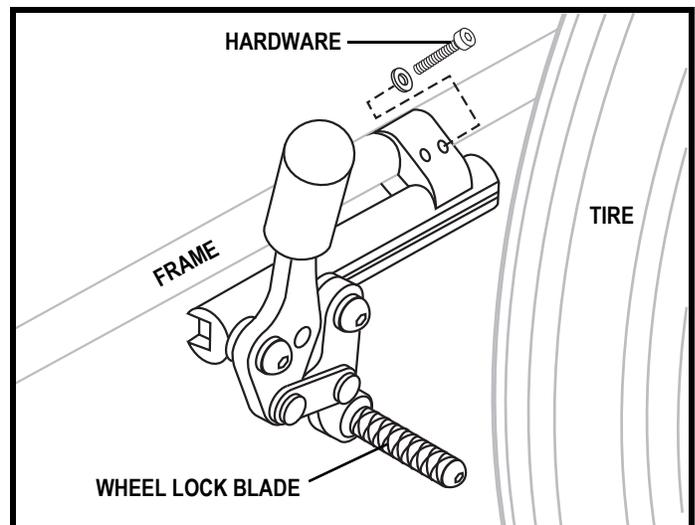

Figure 44. Wheel Lock Adjustment
2. Loosen the hardware that fastens the wheel lock to the frame. See figure 44.